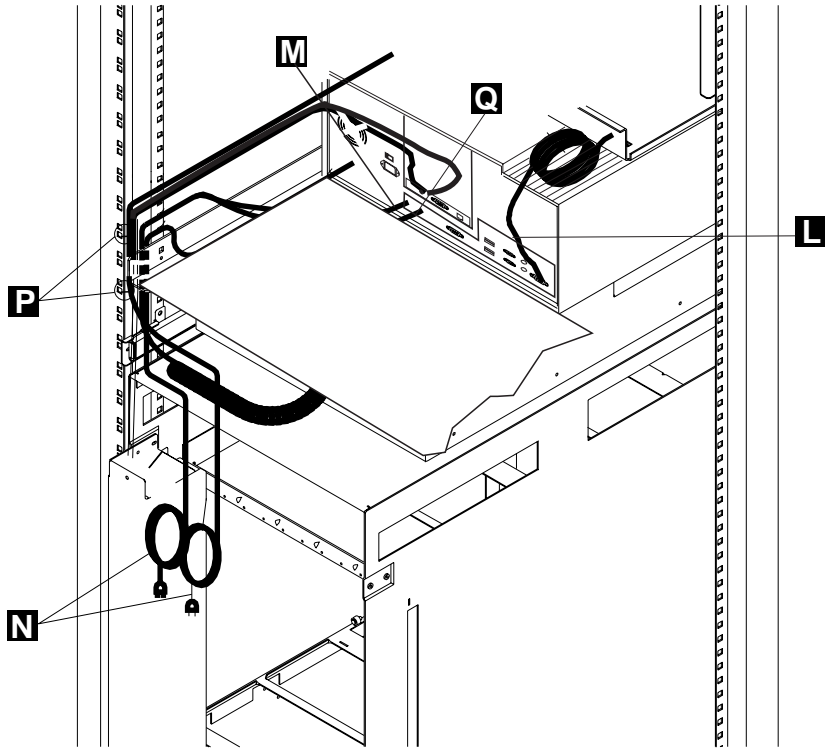
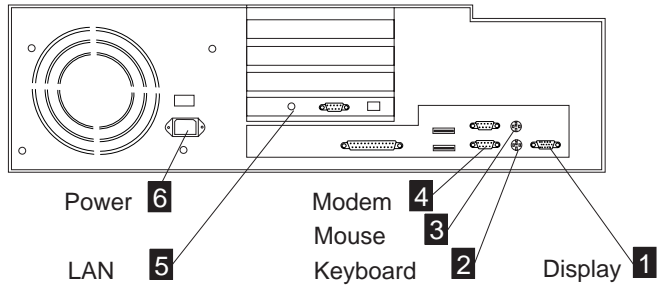

Figure 1-17. Display and Keyboard Cables Connection to the NAS
Figure 1-18. NAS Connectors
1. ____ Refer to Figure 1-17 on page 1-14 to route and locate the cables and refer to Figure 1-18 on page 1-14 to locate the connectors at the rear side of the NAS. Plug the cables as follows: